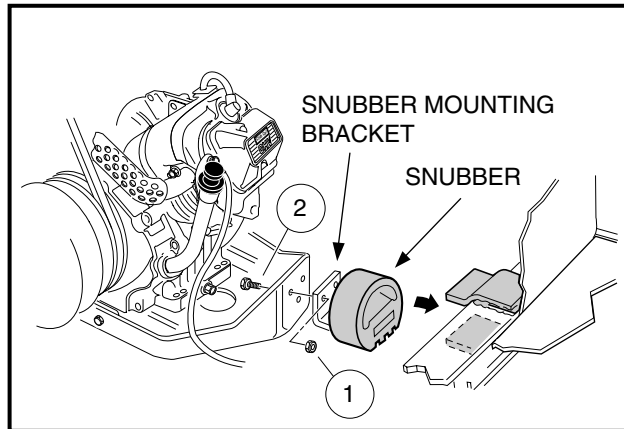

Figure 9-5 Snubber Brackets
2. Remove the two bolts (2) and two lock nuts (1) securing the snubber bracket to the engine mounting plate (**Figure 9-5, Page 9-8**).
2. Tighten snubber bracket mounting nuts (1) to 13 ft-lb (17.6 N·m) (**Figure 9-5, Page 9-8**).